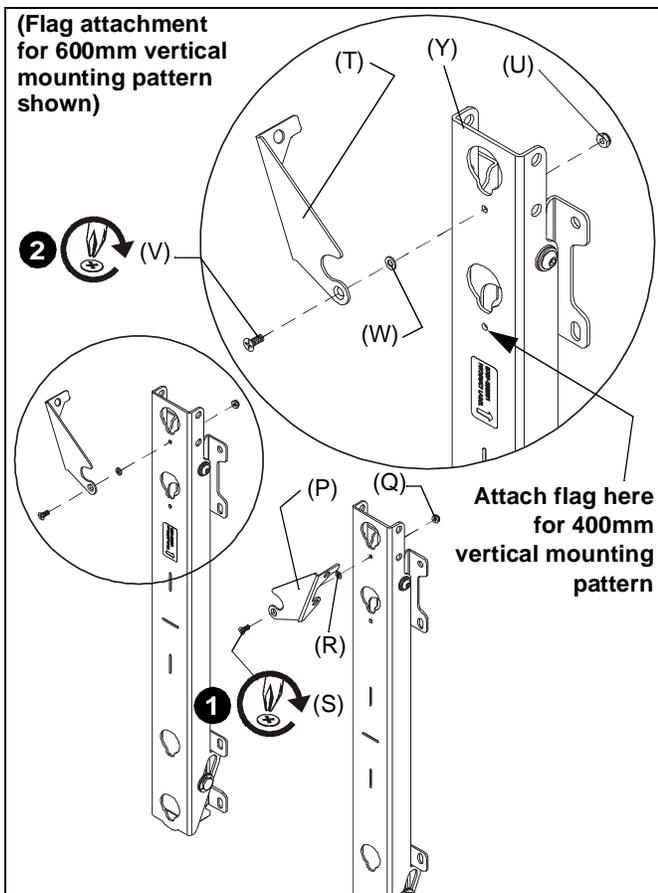

Figure 1
- **400mm** - Attach latching flag at **lower** mounting hole. (See Figure 1)
- **600mm** - Attach latching flag at **upper** mounting hole. (See Figure 1)
1. Attach right latching flag (P) to upright bracket (Y) using one 10-24 x 1/2" Phillips undercut screw (S), one .375x.194x.032" spacer (R), and one 10-24 locknut (Q). (See Figure 1)
2. Attach left latching flag (T) to upright bracket (Y) using one 10-24 x 1/2" Phillips undercut screw (V), one .375x.194x.032" spacer (W), and one 10-24 locknut (U). (See Figure 1)